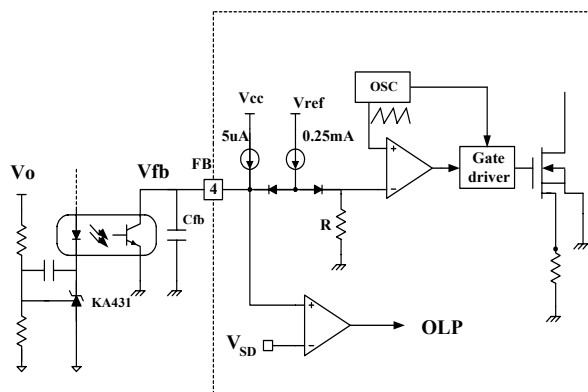

Figure 3. PWM and feedback circuit
2. Feedback Control : The FSD200/210 are voltage mode devices as shown in Figure 3. Usually, an optocoupler and KA431 type voltage reference are used to implement the feedback network. The feedback voltage is compared with an internally generated sawtooth waveform. This directly controls the duty cycle. When